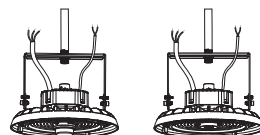

Figure 10
Step3. Re-screw the nuts. (Figure 10) After installation, connect the wire of the fixture to the mains according to local wiring rules, ensure the connection is stable and make good protection on the connection. By adjusting the brackets screws, users can adjust 50° to the left or right vertically.